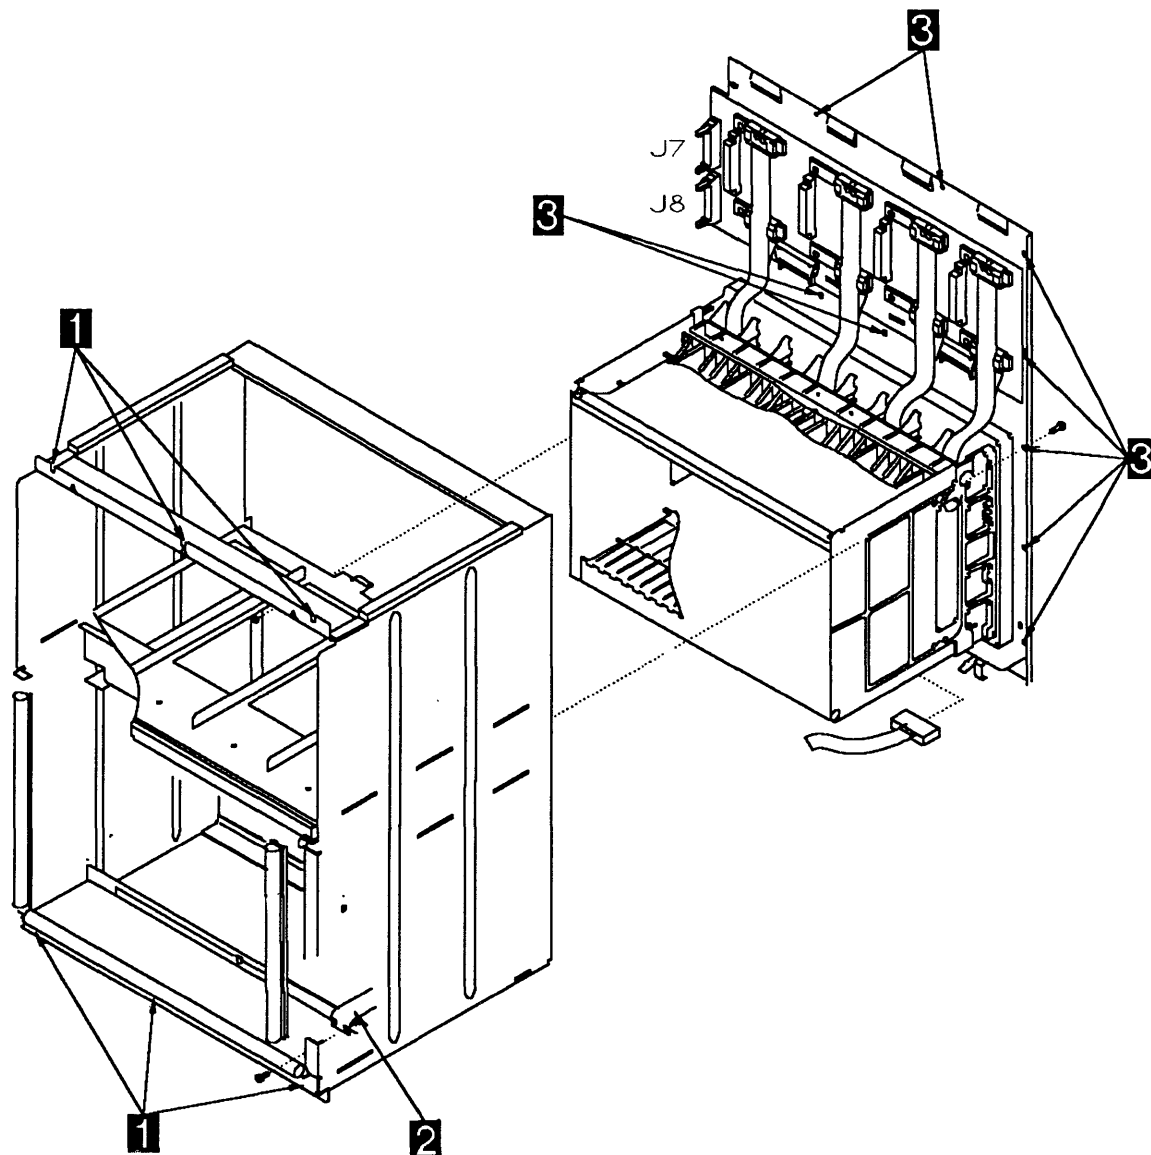

Figure 5-129. Channel Board and Power Enclosure
- d. Remove power connectors 01K-J7 and 01K-J8, refer to Figure 5-129 on page 5-124.
- c. Remove power connectors 02D-J7 and 02D-J8. refer to Figure 5-129 on page 5-124.
16. Refer to Figure 5-129. Remove the 6 screws **1** which maintain the enclosure on the frame. Then slide the enclosure out of the machine taking care not to damage the power board and connectors on the left side.
18. Refer to Figure 5-129. Remove the 11 screws **3** holding the enclosure back plate assembly. Remove the back plate assembly and place in an area for further work.
5. Refer to Figure 5-129 on page 5-124. Re-install the 11 screws **2** holding the enclosure back plate assembly to the enclosure.
6. Refer to Figure 5-129 on page 5-124. Slide the enclosure into the machine taking care not to damage the power board and connectors on the left side. Re-install the 6 screws **1** which maintain the enclosure to the frame.